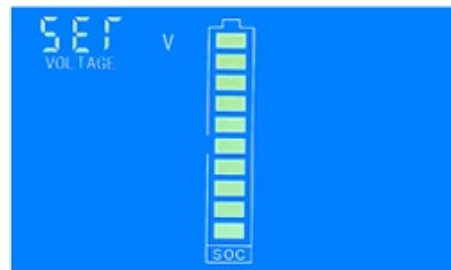
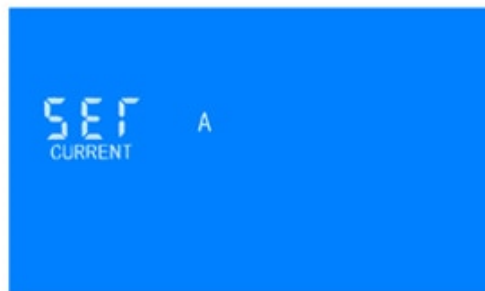

Figure 2: the voltage setting interface
Figure 7 Current range setting interface
Step 1: In the normal display interface (like fig. 1), long press the button until the LCD screen displays the interface like fig. 2, then release the button
Step 1: In the normal display interface, long press the button until the LCD shows the interface of Figure 2, then release the button, short press the button again switch to the interface to Figure 7, it indicates that this state is the current range setting state.
Step 1: In the normal display interface, long press the button until the LCD shows the interface of Figure 2, then release the button, short press the button again switch to the interface to Figure 9, it indicates that this state is the clearing energy setting state.
Step 1: In the normal display interface, long press the button until the LCD shows the interface of Figure 2, then release the button, short press the button again switch to the interface to Figure 10, it indicates that this state is the clearing capacity setting state.
Step 1: In the normal display interface, long press the button until the LCD shows the interface of Figure 2, then release the button, short press the button again switch to the interface to Figure 11, It indicates that this state is the clearing running time setting state.